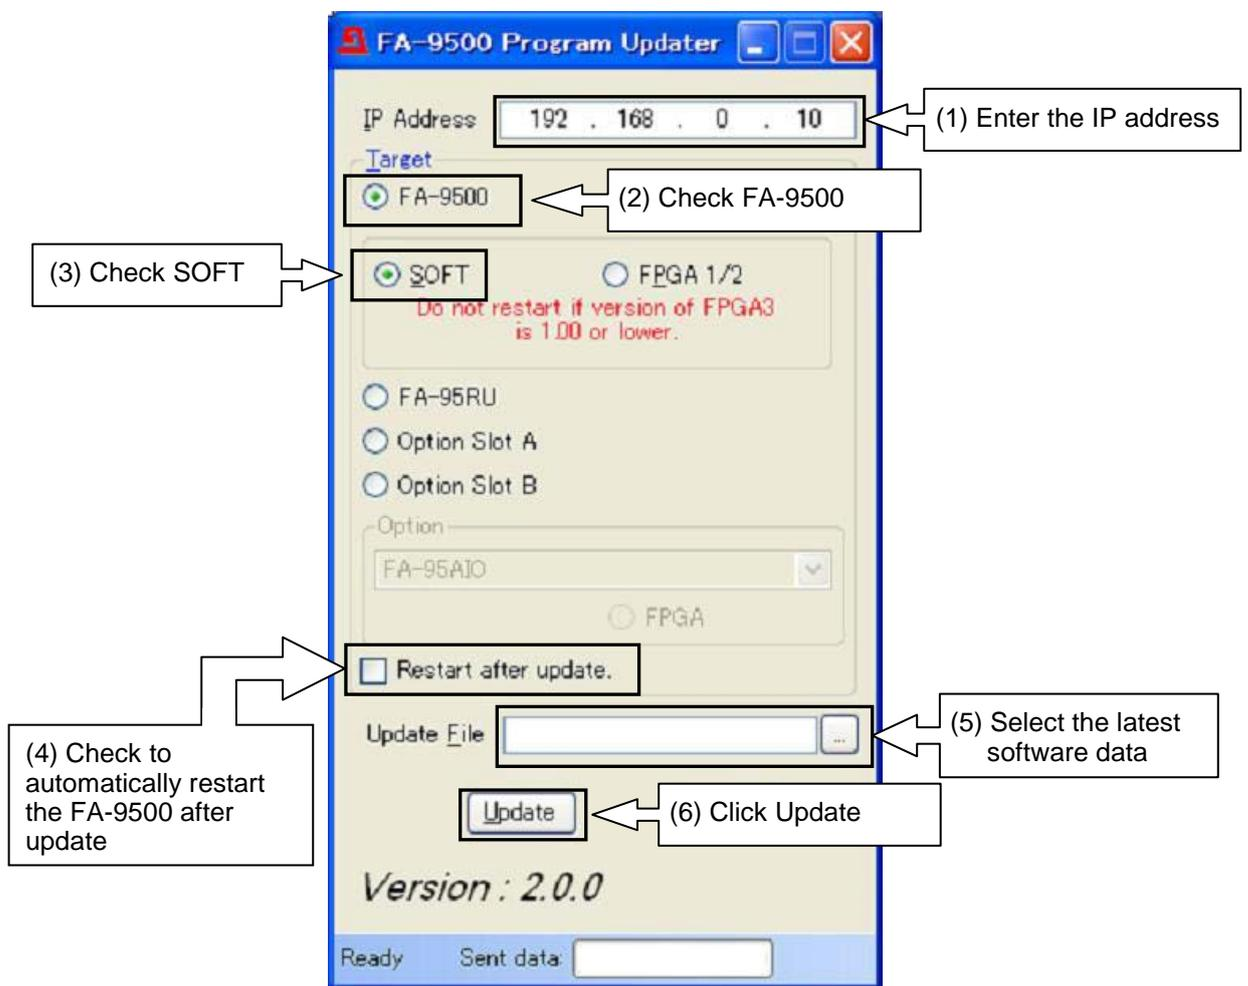

Fig. 9 FA9500ProgramUpdater window for Software update
3. Enter the IP address (default IP address: 192.168.0.10)(Fig. 9.(1)).
4. Check **FA-9500** in the Target section(Fig. 9.(2)).
5. Check **SOFT** in the Target section (Fig. 9.(3)). To automatically restart the FA-9500 after update, check Restart after update (Fig. 9.(4)).
6. Select the latest Software data under Update File (Fig. 9. (5)).
7. Click Update to start updating (Fig. 9.(6)).